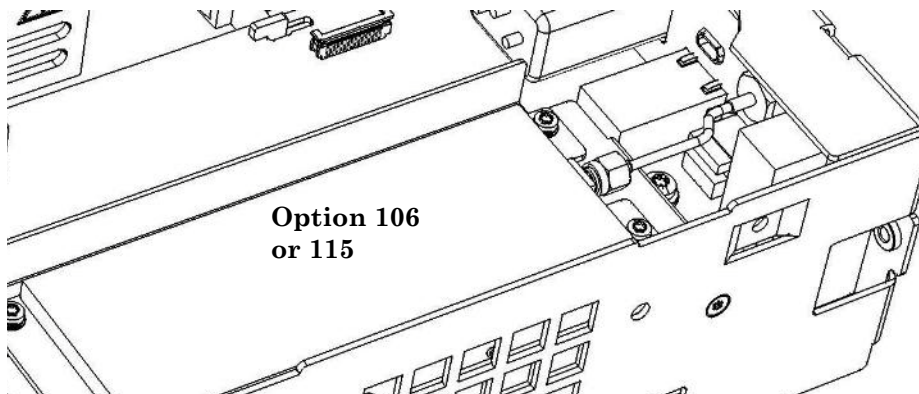

Figure 4-22. Channel 3 assembly installed on top of the motherboard, with the female SMA edge connector pointing toward the rear.
- 4 Set the Channel 3 assembly down on top of the motherboard so that the female SMA edge connector is towards the rear panel. The front flange on the right-front of the Channel 3 assembly bracket must rest on the tab protruding from the front panel (see Figure 4-22).